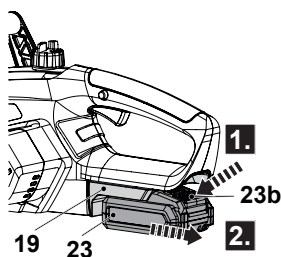

Fig. 14
2. Press the release button (23b) and remove the battery pack (23) from the battery docking port (19) (Fig. 14).